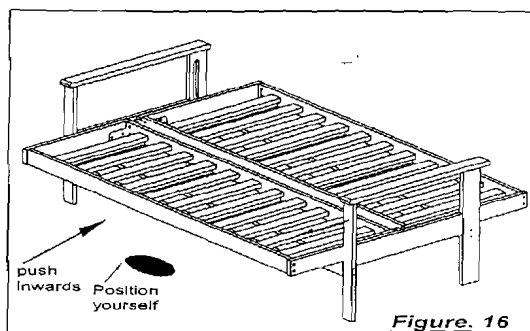
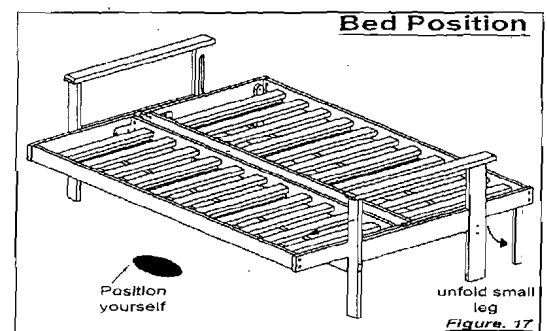

Figure 16
Figure 17
5. Push inwards to lock the bed position. (figure 16). If you have queen size frame, unfold the small legs at the back deck. ( figure 17 ).